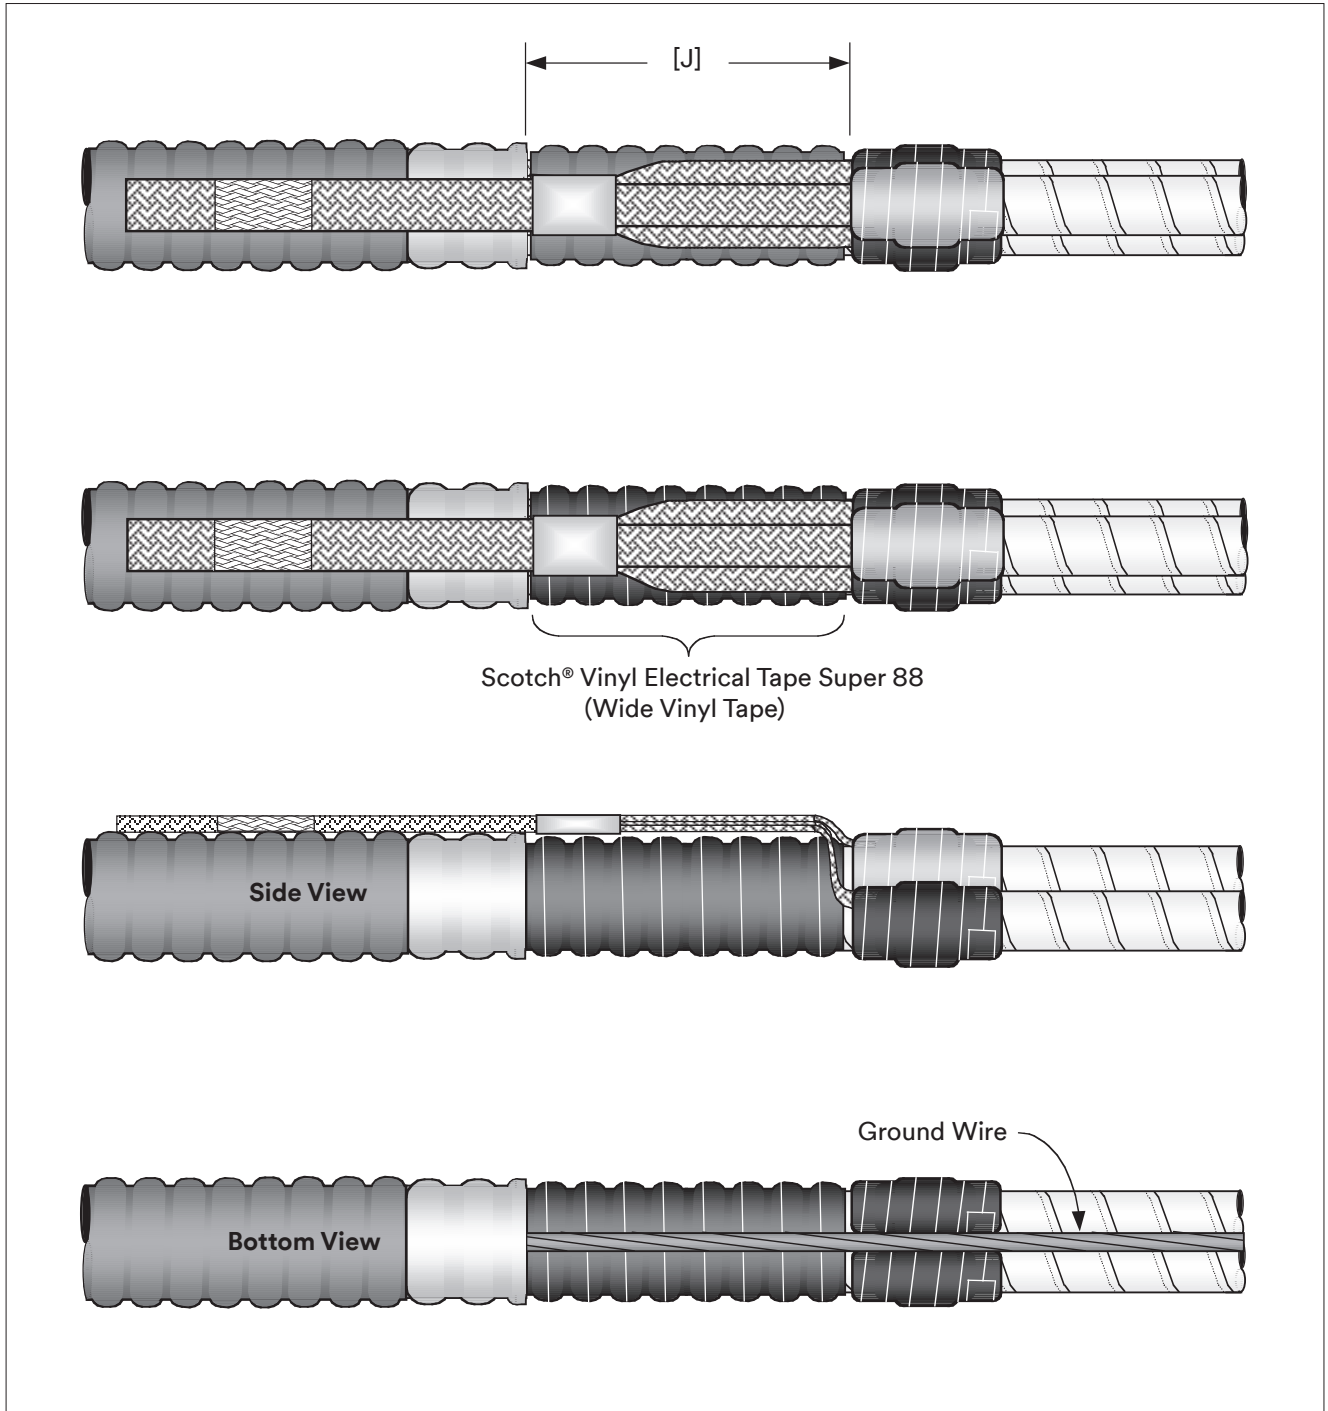

Figure 3
- 3.4 Measure distance [J] (Figure 3). Retrieve previously removed cable jacket material. Cut a straight piece to dimension [J] and wrap it around cable phases beneath ground strap assembly and cable ground wire. Secure jacket section in place using Scotch® Vinyl Electrical Tape Super 88 (wide vinyl tape) (Figure 3).